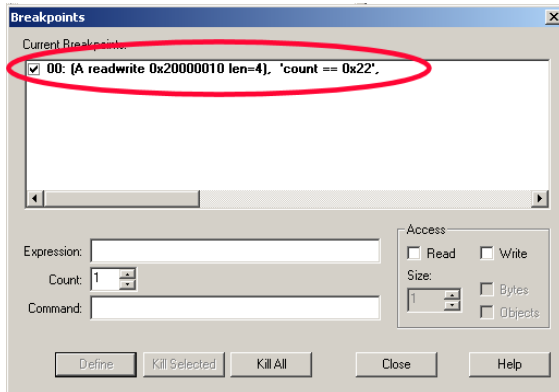

Figure 15: Setting up count
2. Open the Breakpoint window through View/Breakpoints or Ctrl-B. Figure 15 opens up.
3. Watchpoints are created in the bottom half of Figure 15 and defined and listed in the top half.
4. Enter the count in the bottom half of the Breakpoints window: Figure 15. Click Read and Write.
5. Figure 15 says the program will be halted if the value of 0x22 is written to or read *once* from the variable count. (Count = 1) The other entries are the default settings.